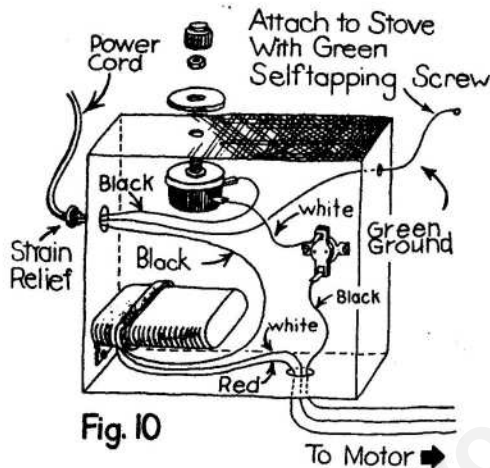

Fig. 10
3. Remove the plastic from the face of the rheostat dial. The threaded shaft of the rheostat should have a nut on it already. Remove the nut. On the same face of the rheostat is a small anti-rotational tab. This tab and the threaded shaft match holes in the motor cover and rheostat dial. Line up the rheostat with the holes in the motor cover and rheostat dial. Then hand tighten the dial onto the rheostat with the nut. Look at the back of the rheostat knob and slide it onto the shaft, according to the flat side of the shaft. (Figure 10)
replace the capacitor bracket on the the capacitor. Secure the bracket to the motor cover with the machine screws (0702) and nuts (0714.) The strain relief (0763) is installed by forcing it into the hole. (Figures 10 and 11) Use green self tapping screw to attach ground wire, pre-drill with $\frac{3}{64}$ " Drill Bit.